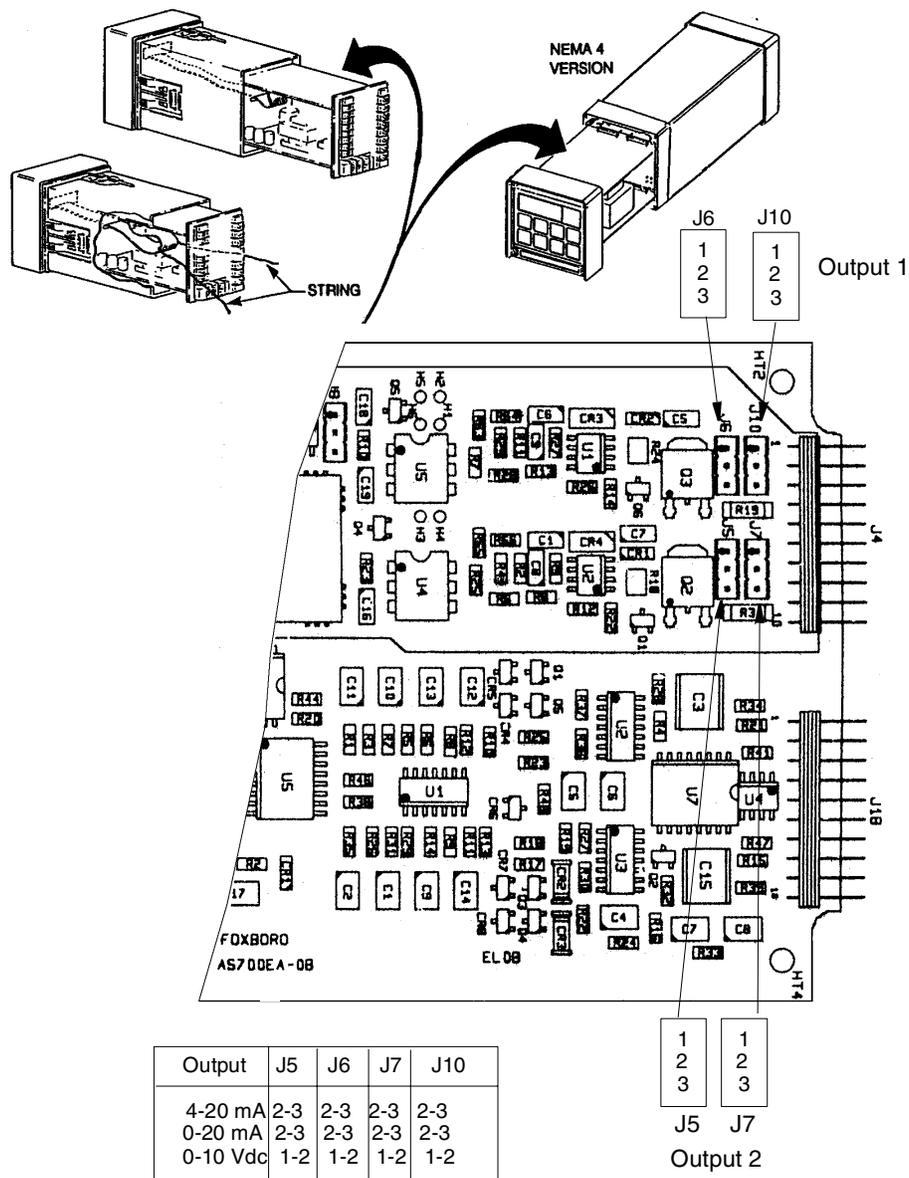

Figure 21. Jumpers for Changing Analog Output
4. Refer to Figure 21 to identify jumper locations.
**CAUTION:** On the Plastic version, a string must be rigged through the loop in the ribbon cable such that when the board assembly is slid into the housing, the string/ribbon cable may be pulled back simultaneously, thus preventing damage to the cable. See Figure 21.